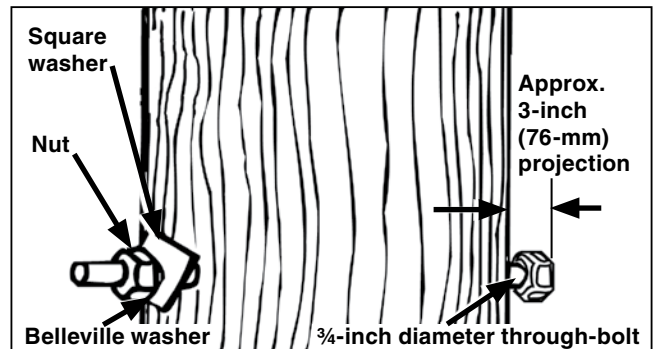

Figure 6. Install the through bolts. Use a square washer against the wood pole and a Belleville washer between the square washer and nut.
STEP 4. Insert a $\frac{3}{4}$ -inch (19-mm) diameter through-bolt (not furnished) into each hole as shown in Figure 6.